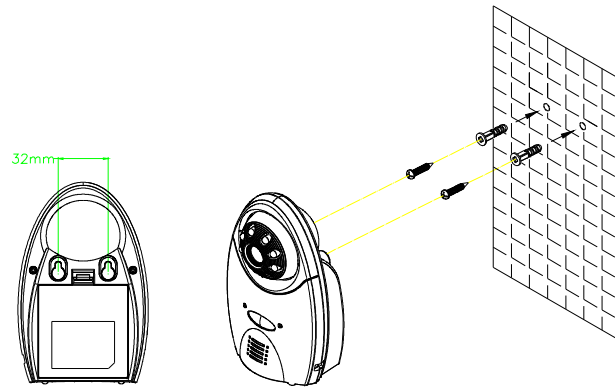

Fig. 6
1. Decide on the appropriate mounting location. Drill two holes 32mm apart in a line and fit wall plugs. (Fig. 6)
2. Insert fixing screws until almost fully home and hang the Camera over these screws using the two keyhole slots in the rear of the Camera. (Fig. 6)